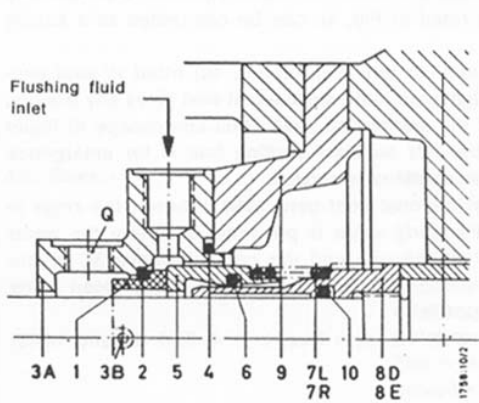
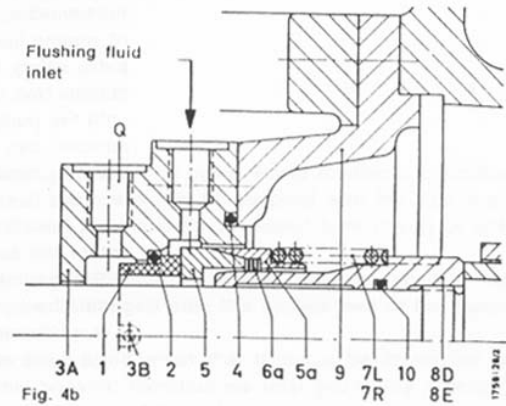
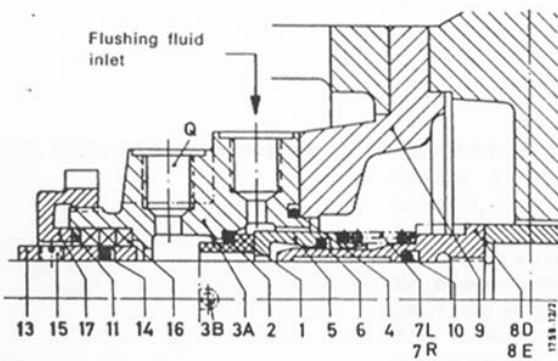

Fig. 4a
Fig. 4b
Fig. 4c
A mechanical shaft seal (Fig. 4a to d) consist essentially of two rings pressed against each other, in close rubbing contact; one ring (5) rotates with the shaft, whilst the other ring (1) is stationary and is resiliently mounted in the seal clamping plate (3A).
1. Standard type with O-ring seal (Fig. 4a)
2. Standard type with Teflon profile seal (Fig 4b)
3. Standard type with auxiliary stuffing box and O-ring seal (Fig. 4c)
*) Wedge and Teflon sealing ring only on Fig. 4b execution
Whether type 1 with an O-ring seal (Fig. 4a) or type 2 with a Teflon seal (Fig. 4b) is used, depends on the temperature and physical properties of the liquid pumped.
When highly **volatile liquids** are being pumped, the bore Q (Fig. 4a - d) is connected to a pipe through which any gas can be led off. When the liquid pumped is **particularly inflammable**, the bore Q in the seal illustrated in Fig. 4c can be connected to a supply of sealing liquid.
Extra safety is afforded by auxiliary stuffing box (Fig. 4c and 4d) fitted to seal executions Nos. 3 and 4. **This stuffing box is tightened if the mechanical seal gives any trouble**, until the pump is shut down for repair of the mechanical seal. Thus any escape of liquid pumped can be prevented. **Remember that this auxiliary stuffing box is for emergency use only, and should not be used alone in continuous service.**